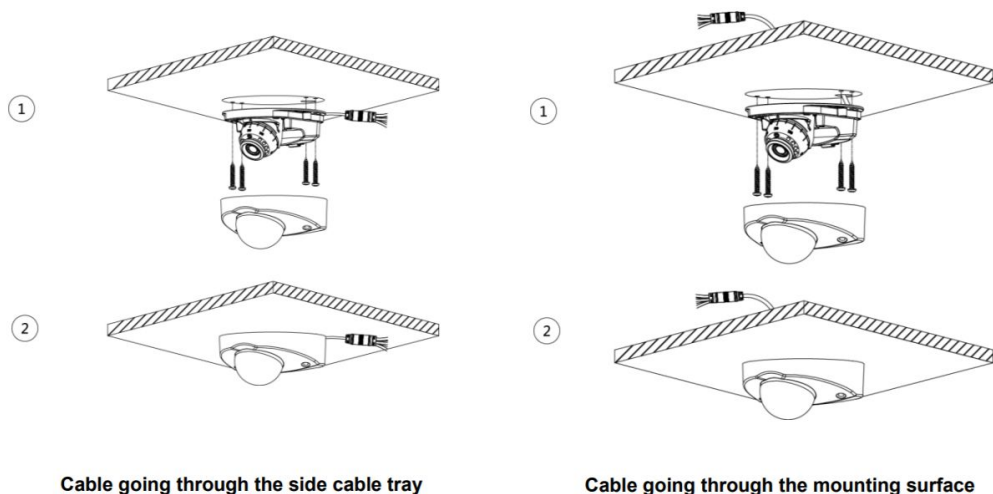

Figure 2-3
**Step 3** Install the mounting screws to the camera base then the dome cover to the base. See Figure 2-3.